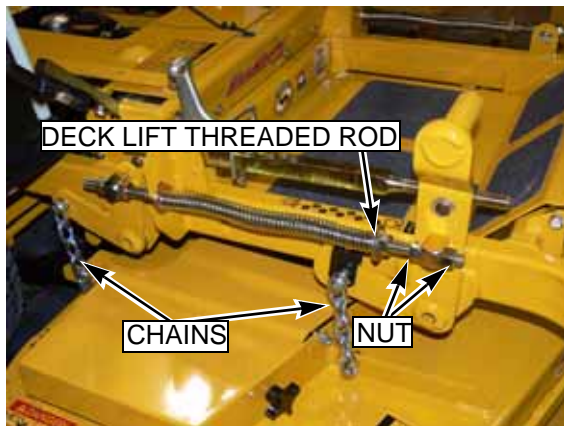
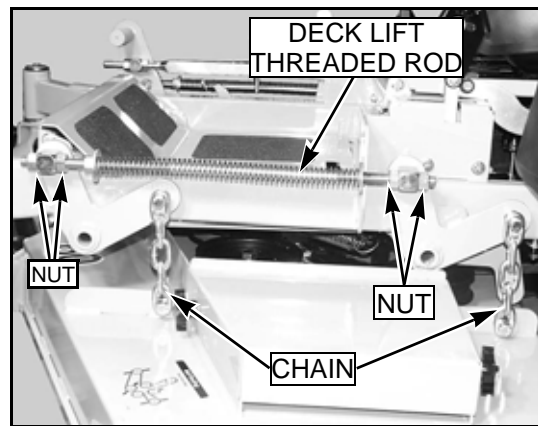
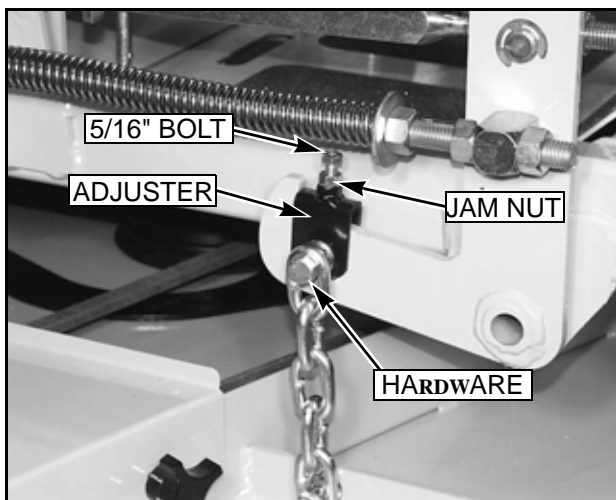

FIG. 63
FIG. 64
FIG. 65
6. Loosen all nuts on the deck lift threaded rods, and the hardware on the adjuster (on the right front), until all the deck lift chains are loose, and the deck is sitting tightly on all four blocks (FIG. 63, FIG. 64 & FIG. 65).
14. Loosen the 5/16" jam nut on the adjuster lift chain (FIG. 65), and back the adjuster bolt out to allow the adjuster to move up and down freely.
17. Tighten the adjuster bolt jam nut to prevent the adjuster bolt from moving (FIG. 65).
20. Make sure that there is still slack in the chain. If not, loosen the two nuts on the block holding the threaded rod until there is slack in the deck lift chain (FIG. 65).
24. Make sure that there is still slack in the chain. If not, loosen the two nuts on the block holding the threaded rod until there is slack in the deck lift chain (FIG. 63).